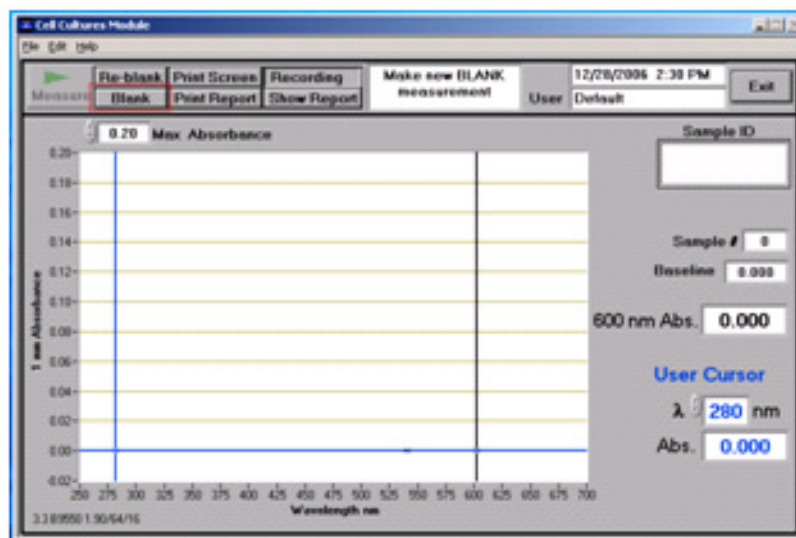

Figure 43 NanoDrop® ND-1000 Spectrophotometer software measurement dialog box.
8. Click **Blank**, then allow the instrument to take a measurement (see Figure 43 on page 110).